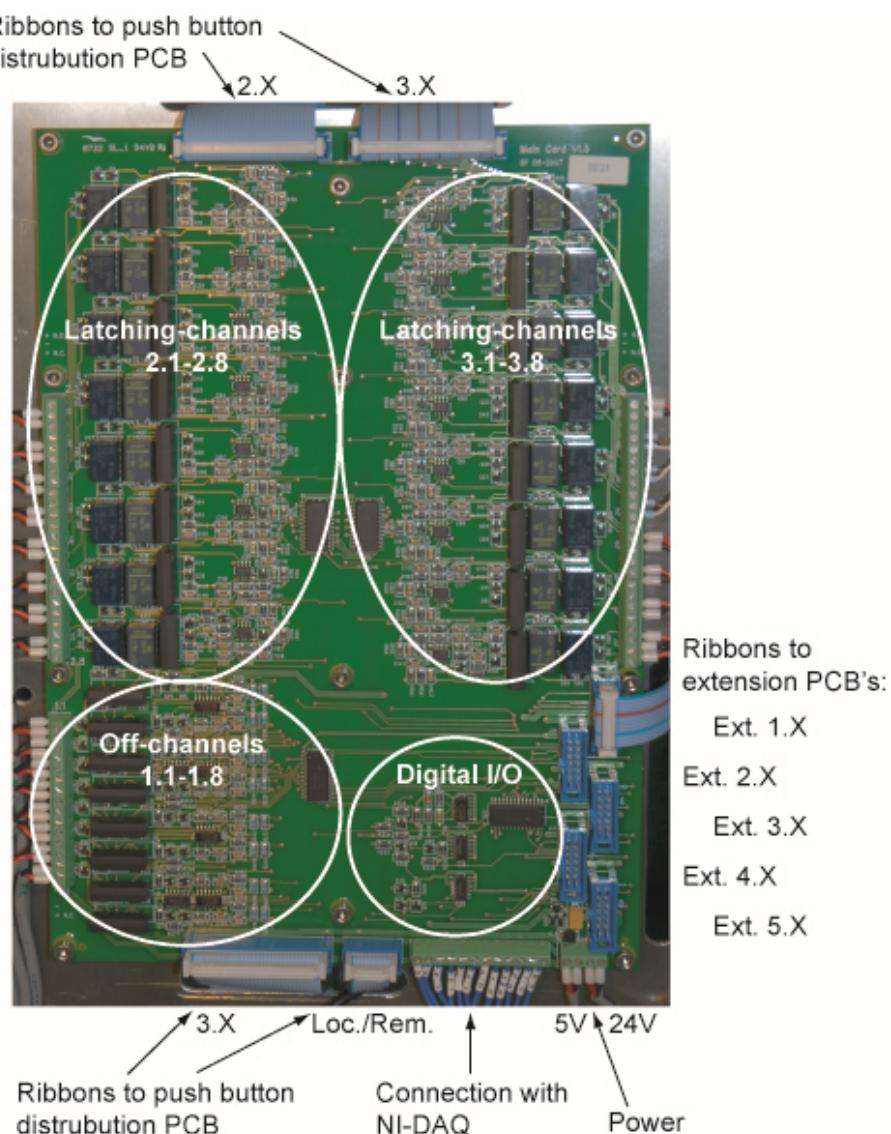

Figure 9. Main circuit board.
2.2. *The Control Unit (CU)*
The Control Unit (CU) is a separate cabinet and contains all the electronics to control and read the status of the GHS (see Figure 8). The CU is preferably placed close to the cryostat. All switching (valves, pumps, compressors etc) is done through a central (expandable) relay board (see Figure 10 and Attachment 7.4). On the main circuit board the relay control channels are arranged in three groups of eight channels each. Except the circuitry for these channels, this board also contains the digital I/O circuitry (see Figure 9). The main board can be expanded with extension circuit boards, each containing eight control channels (see Figure 10). In principle it is possible to control up to 64 channels. A standard BF-LD400 system has one main board plus one extension card, for a total of 32 channels.